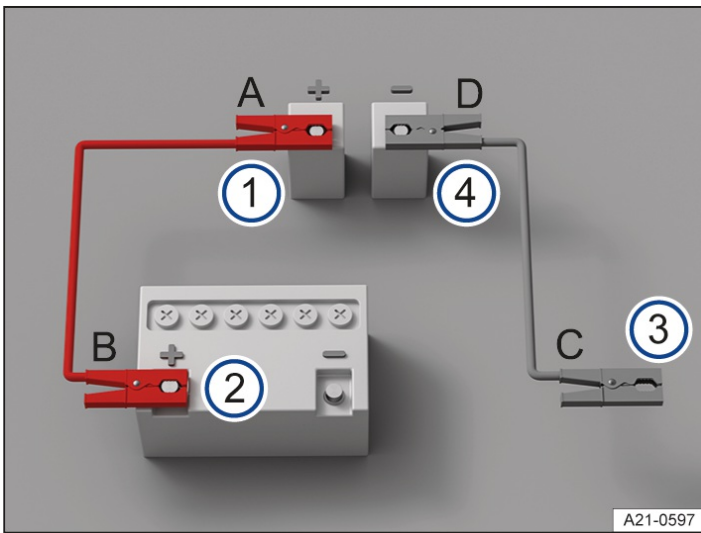

Fig. 1 Schematic diagram of how to connect the jump leads.
Connect the jump leads only in the order A – B – C – D → Fig. 1.
3. Connect one end of the red jump lead to the positive jump-start connection point⁺ of the vehicle with the discharged 12-volt vehicle battery → Fig. 1 ① → ⚠.
4. Connect the other end of the red jump lead to the positive battery terminal⁺ of the vehicle providing assistance → Fig. 1 ②.
5. Connect one end of the black jump lead to an earth jump-start connection point⁻ on the vehicle with the 12-volt vehicle battery providing assistance → Fig. 1 ③.
Or: if no earth jump-start connection point⁻ is present, connect the end of the black jump lead to a solid metal part that is securely bolted onto the cylinder block or to the cylinder block itself on the vehicle with the 12-volt vehicle battery providing assistance → Fig. 1 ③.
6. Connect the other end of the black jump lead to the earth jump-start connection point⁻ on the vehicle with the discharged 12-volt vehicle battery → Fig. 1 ④ → ⚠.